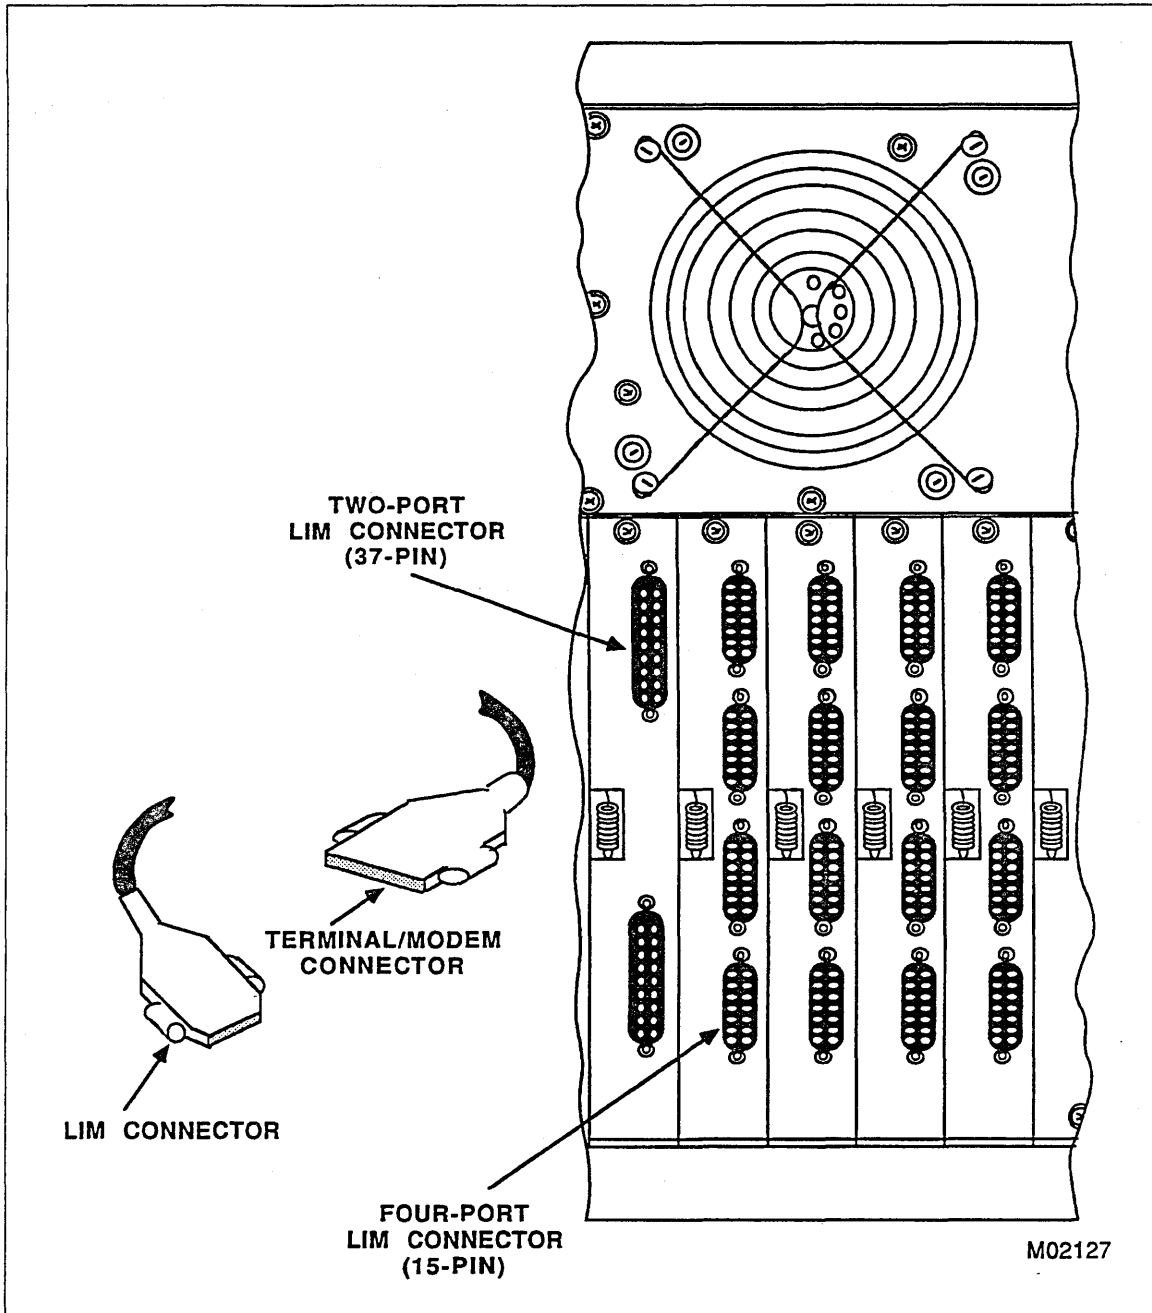

Figure 2-4. Installing 4-Port LIM Cables
1. Connect the cable(s) to the DI. 4-port LIM cables are shown in figure 2-4. Tighten the locking screws with a straight slot screwdriver.
1. Connect the cable(s) to the DI. The LIM cables are shown in figure 2-4. Tighten the locking screws with a straight slot screwdriver.